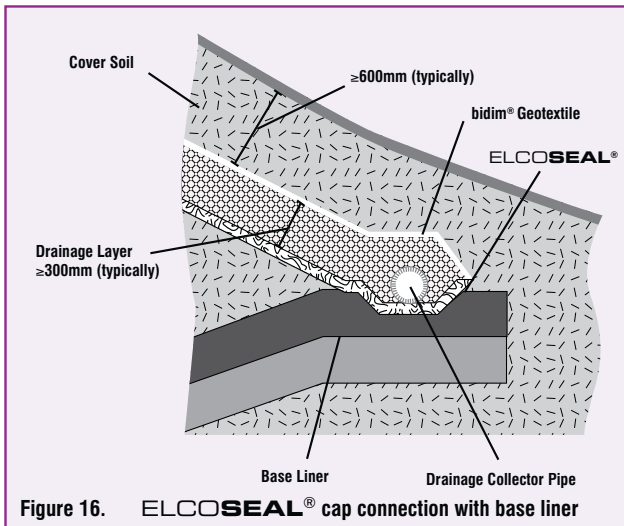

Figure 16. ELCOSEAL® cap connection with base liner
- Integration with thick compacted clay liners is shown in Figure 16.